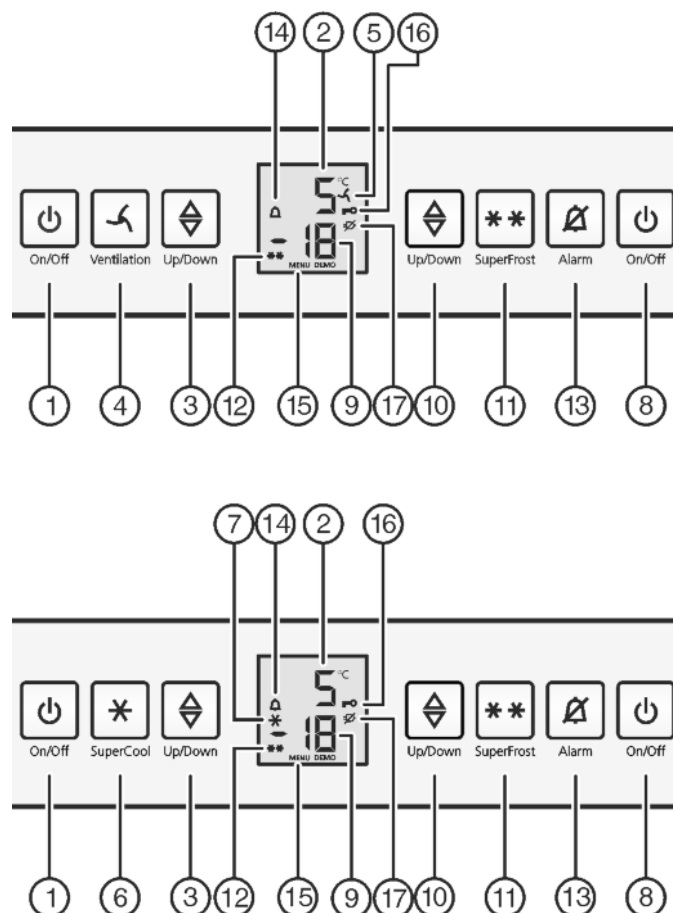

Fig. 2
- Press the freezer On/Off *Fig. 2 (8)* button.
- Press the fridge On/Off *Fig. 2 (1)* button.
- Activate setting mode: press the SuperFrost button *Fig. 2 (11)* for approx. 5 seconds.
- ▷ The Menu symbol *Fig. 2 (15)* is shown on the display.
- Briefly confirm with the SuperFrost button, *Fig. 2 (11)*.
- ▷ The child lock symbol *Fig. 2 (16)*, lights up on the display.
- Briefly press the freezer compartment On/Off button *Fig. 2 (8)*.
- ▷ The child lock symbol *Fig. 2 (16)* goes out.
The temperature display and the alarm symbol *Fig. 2 (14)* flash at the same time.
The audible alarm is automatically silenced, the alarm symbol *Fig. 2 (14)* goes out and the temperature display stops flashing when the temperature is sufficiently cold again.
- Press alarm button *Fig. 2 (13)*.